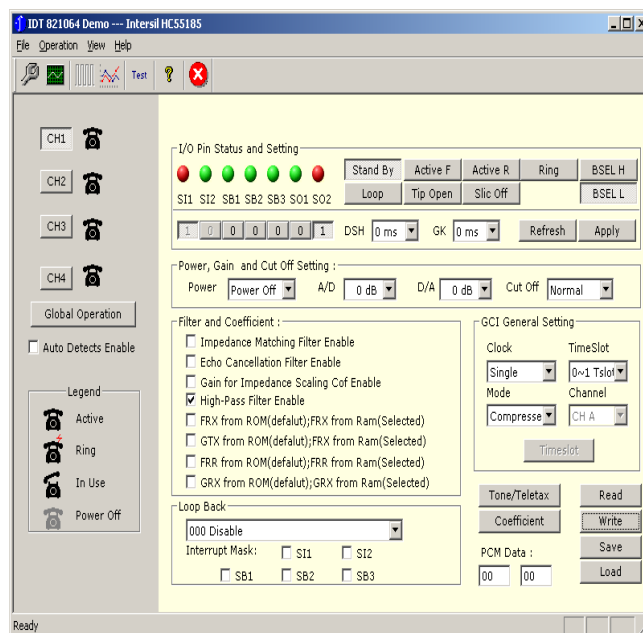

FIGURE 2. GCI OPERATION GENERAL INTERFACE
Programming of the logic state of the SLIC, loop supervisory detection, time slot allocation, coefficients, tone/ teletax signals are all controlled via software using the GCI screen (Figure 2).
5. The GCI Mode screen will then appear (Figure 2). All programming of the channels and monitoring of SLIC status are performed using this screen.